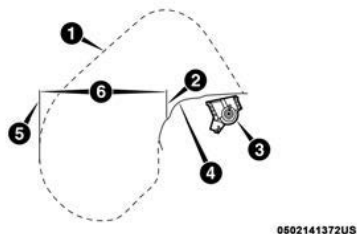
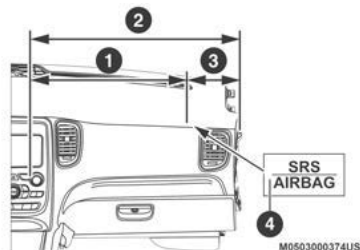

Figure 3 - Passenger Air Bag Deployment Zone, depicts the following:
Figure 4 - Passenger Air Bag Lateral Deployment Zone, depicts the following:
2. Passenger Air Bag Deployment Zone (Figure 3 and Figure 4)